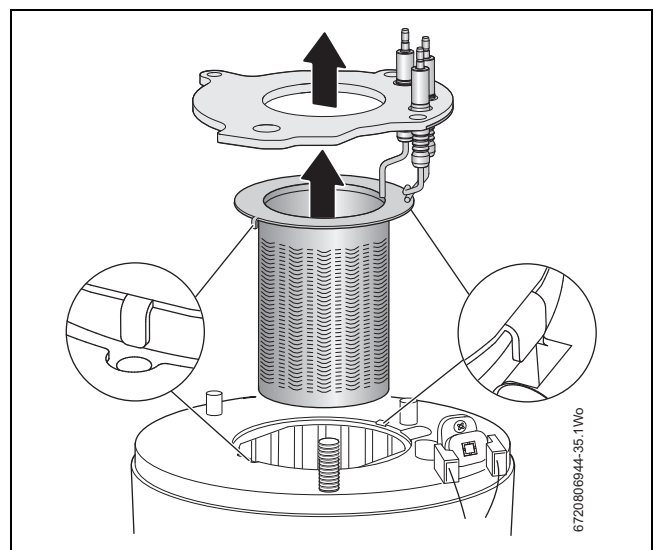

Fig. 75 Burner removal
- ▶ Refer to figure 75 when re-fitting the burner to ensure that it fits centrally within the heat exchanger and location tabs are situated in location holes.
Refer to figure 75
- Replace burner in correct position, ensure that burner tabs shown in figure 75, fit correctly in their respective locations.